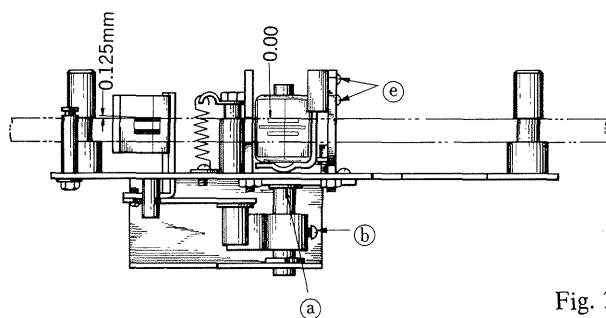

Fig. 2
Set the tape speed to 7-1/2 ips. Connect a V.T.V.M. to pre-amplifier output. Playback a 16 KHz recorded tape and adjust screw (f) of Fig. 2 so that V.T.V.M. indicator reads maximum.
3. ADJUSTMENT OF BIAS HEAD AND BIAS VOLTAGES (Fig. 2)
When replacing the Recording/Playback Head, adjust the space between the Bias and Recording Head to 0.3 mm by loosening screw (e) and adjusting the Bias Head stopper, as shown in Fig. 2.